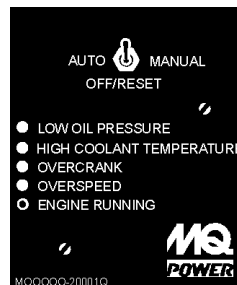

Figure 44. MPEC Engine Running Status LED
7. After engine starts, verify that the "Engine Running" status LED (Figure 44) on the Microprocessor Engine Control Module (MPEC) display is "ON" (lit).
17. After the engine has been running for a few minutes, look at the status LED'S on the "MPEC" display (See Figure 44 on page 36) and check it for any abnormal conditions. If any abnormal conditions exist, shut down the engine and take corrective action to solve the problem.